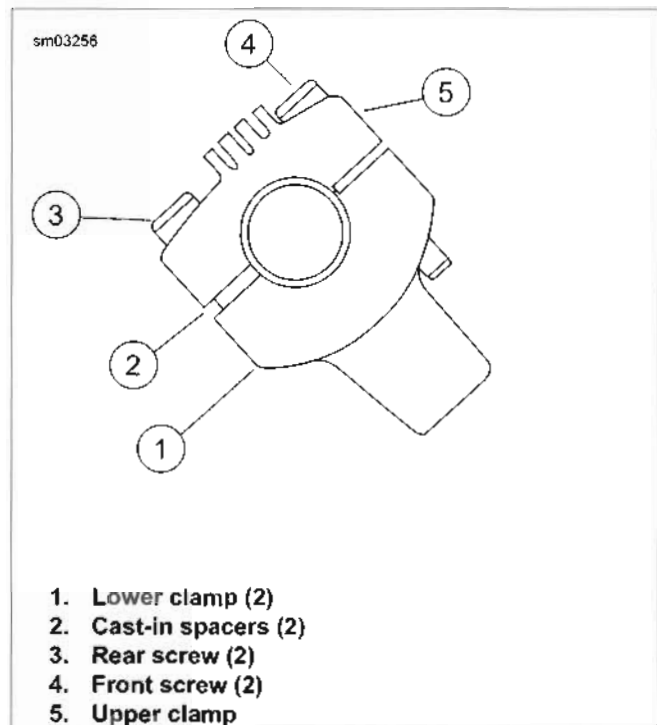

Figure 2-96. Handlebar Riser
- See Figure 2-96. Place handlebars on lower handlebar clamps. Install upper handlebar clamps. Install but do not tighten clamp fasteners.